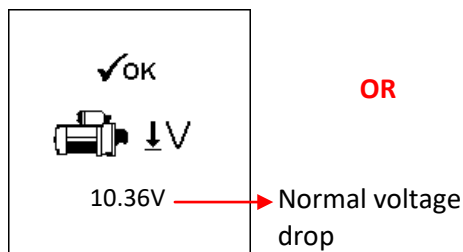
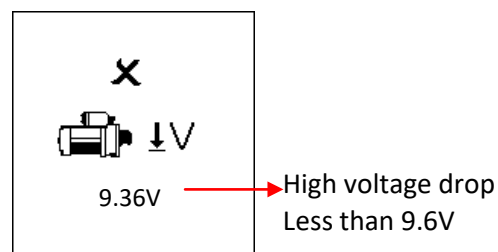

Fig. 44
Fig. 45
- 3. Now switch the ignition key to ON and start cranking the engine until it starts. As soon as the engine starts, the results will automatically display as shown in examples below :(Fig.44 or Fig. 45)